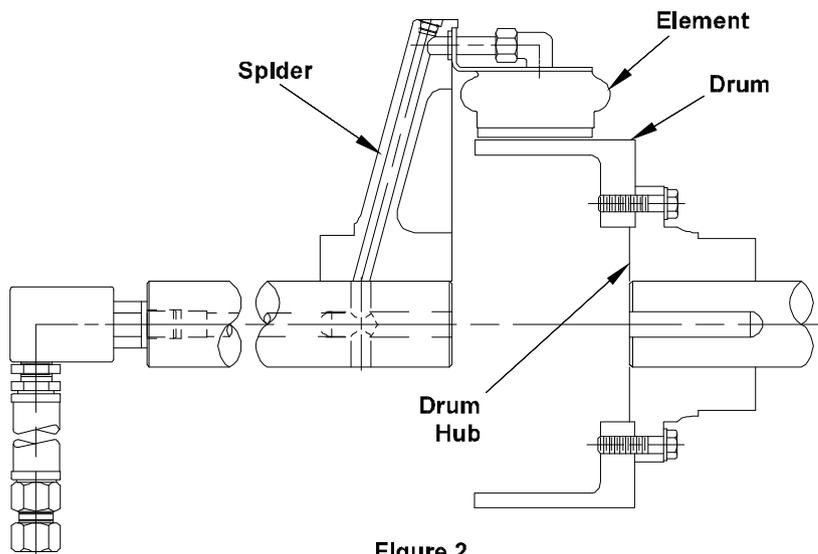

Figure 2
2.1.1 Figure 2 illustrates the gap-mounted arrangement. In this arrangement, the element is attached to a spider which is typically mounted on the driving shaft. The drum is attached to a drum hub which is typically mounted on the driven shaft. The gap between the two shafts allows the element and drum to be removed without disturbing either shaft.